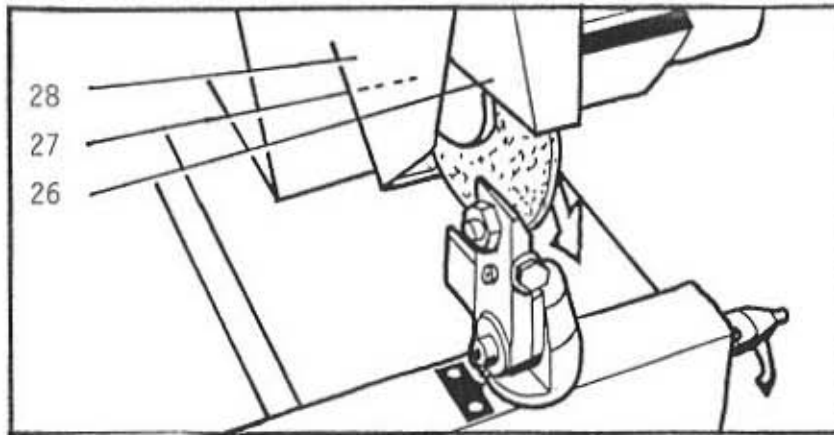

Fig.19
MOUNTING THE GRINDING WHEEL (Fig.19)
Dressing to width (Fig.19) Grinding wheel makers cannot guarantee that their wheels are flat and true, so we recommend side dressing all wheels when first fitted.
Set the clearance angle to 25-30 degrees (average setting), and set the wheel vertical. Set the diamond central to the wheel and secure screw (25). Rotate the assembly through 90 degrees to either side and secure by handlever (22). The pointer should be opposite to 90 degree mark, see Fig.19.
Resetting the Dresser - If the diamond becomes worn or needs replacing re-set it as follows. Fit a fine grit wheel making sure that the correct compressive paper washers are used. Set the dresser as though to side-dress the right hand (bearing) side of the wheel. Set the diamond as for side dressing (See Fig.19). Release the locknut and adjust the diamond so that it makes light contact only with the side of the wheel and secure. Side dress the grinding wheel at both sides, then measure the grinding wheel thickness relative to the standard 5 mm stylus. The correct diamond setting is when the gauge used is tight on the stylus but easy on the wheel, (or also tight on the wheel but with a piece of paper wrapped around it).